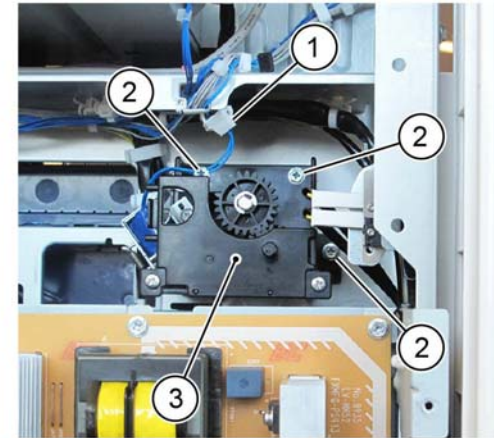

Figure 2 Exit 1 OCT assembly removal
5. Remove the Exit 1 OCT assembly toward the rear, Figure 2:
- a. Disconnect the connector (1).
- b. Remove three screws (2).
- c. Remove the exit 1 OCT assembly (3) toward the rear.